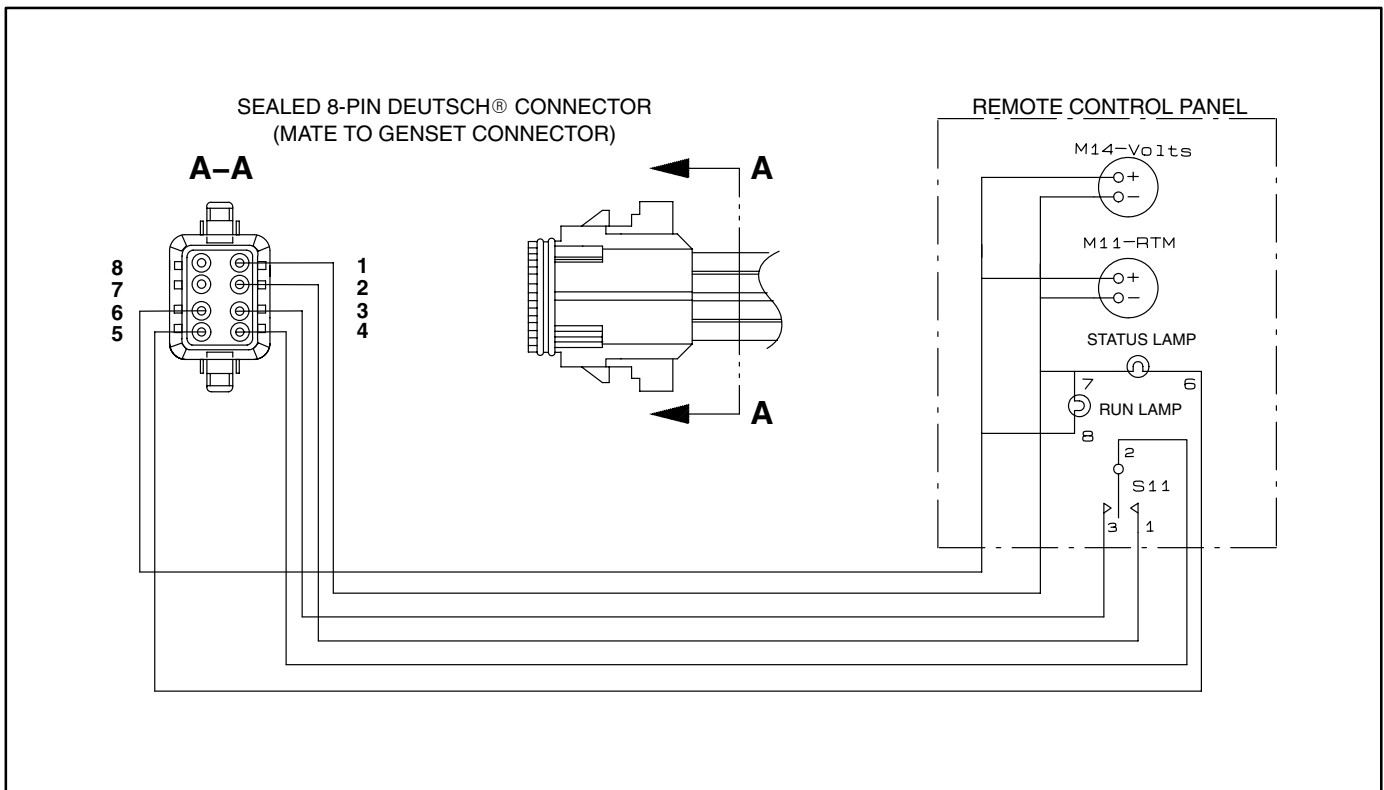

FIGURE 6. CONNECTIONS BETWEEN REMOTE PANEL AND ITS 8-PIN CONNECTOR
Non-Onan Remote Control Panels: Use Figure 6 as a guide for wiring a remote switch and meters to mate with the genset remote connector. Start-Stop switches must be momentary contact in both positions. *The panel must be installed in spaces isolated from gasoline fuel sources unless all of its components are ignition protected devices.*
Harnesses for remote switches and meters only must have at least six (6) conductors (connector pins 7 and 8 are not used). See Figure 6.